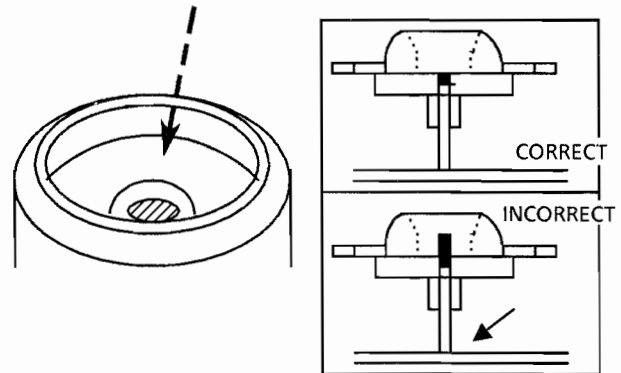

Fig 13
4. After inserting the turntable, bond the motor shaft and turntable together (at the section marked by an arrow in fig 13 on the left below).
5. Use "LOCKTITE" #460 bonding agent, and apply as little as possible. Take care not to allow any excess bonding agent to get onto the turntable. Be extremely careful not to allow bonding agent to adhere to the motor bearings (the section marked by an arrow in fig 13 on the right).